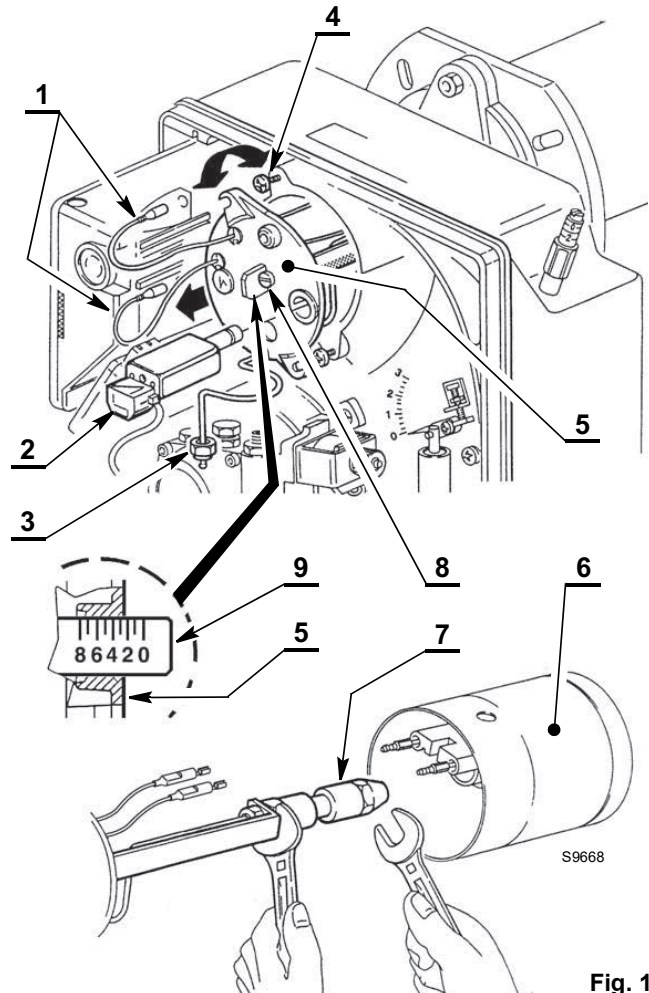

Fig. 17
To access the nozzle, carry out the following operations (Fig. 17):
- Pull out the cables 1) from the control box, the flame sensor 2)(Fig. 17) and unscrew the nut 3) from the pump.
- Replace the nozzle 7)(Fig. 17) using a wrench to hold the nozzle holder.